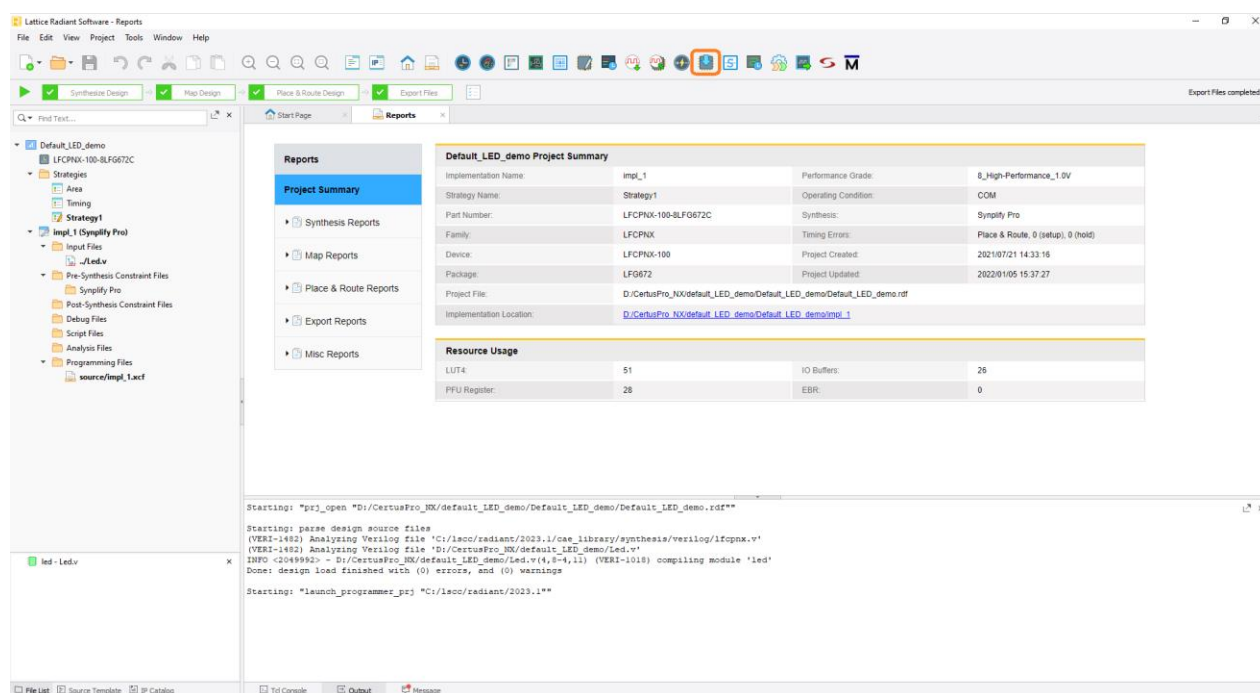

Figure A.1. Radiant Software – Radiant Programmer
3. In the Lattice Radiant software, click the **Programmer** button, as shown in Figure A.1.